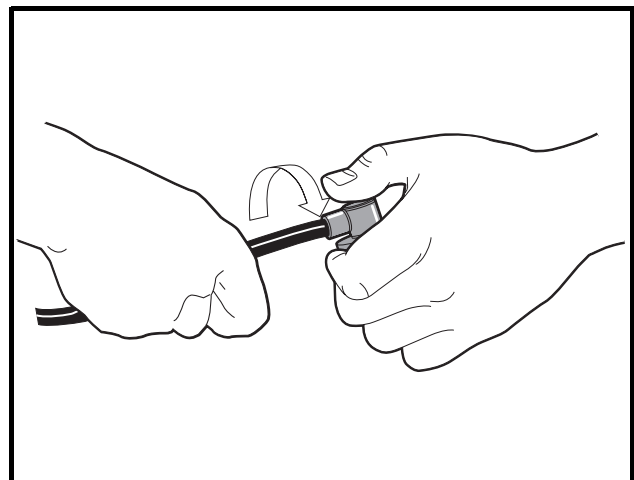

Figure 11-28 Spark Plug Cap Removal
- 4.2. Remove the cap from the wire by turning the cap counterclockwise three or four revolutions while gently pulling it off the wire (**Figure 11-28, Page 11-27**).